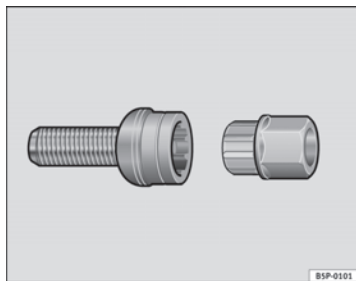

Fig. 132 Anti-theft wheel bolt
- Insert the adapter onto the wheel bolt and push it on as far as it will go ⇒ fig. 132.